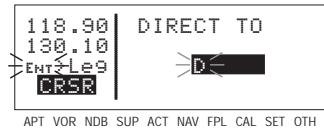

Figure 4-45
- Select the letter "D" as the waypoint identifier (figure 4-45). **D** is the full identifier of several waypoints in the KLX 135 data base.